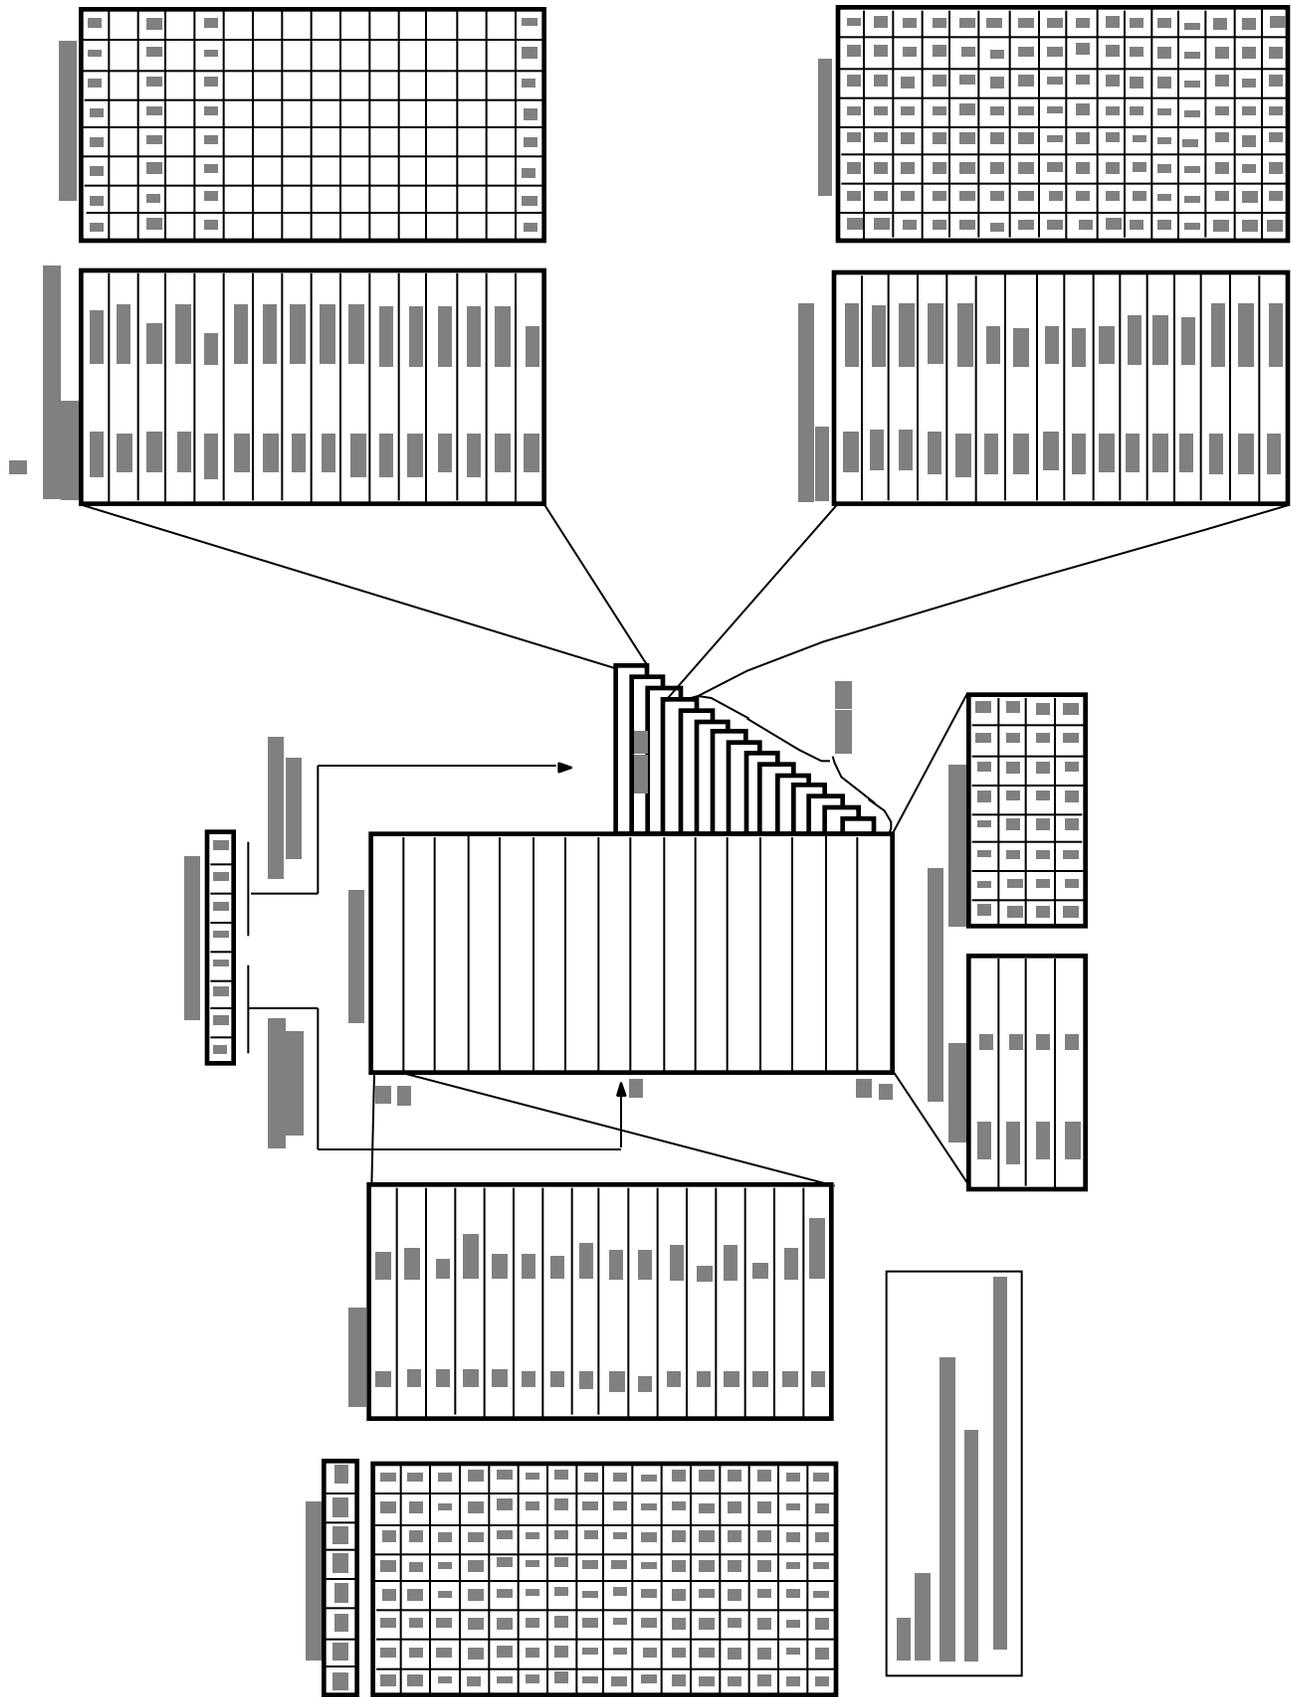
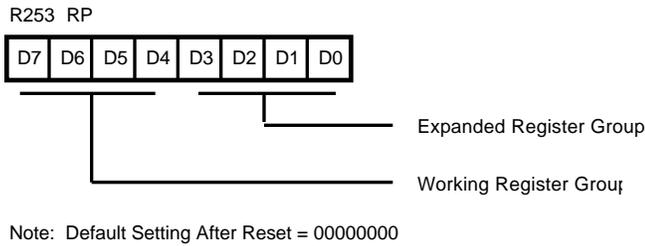
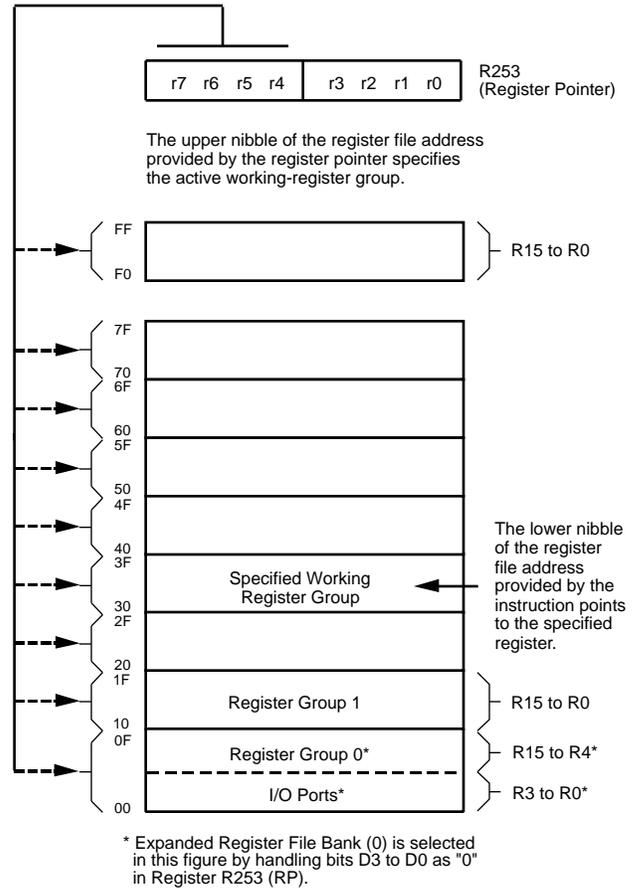

Figure 16. Expanded Register File Architecture
Figure 17. Register Pointer Register
Figure 18. Register Pointer
Expanded Register File. The register file has been expanded to allow for additional system control registers and for mapping of additional peripheral devices and input/output ports into the register address area. The Z8 register address space R0 through R15 is implemented as 16 groups of 16 registers per group (Figure 16). These register banks are known as the Expanded Register File (ERF). Bits 3-0 of the Register Pointer (RP) select the active ERF bank. Bits 7-4 of register RP select the working register group (Figure 16). Four system configuration registers reside in the ERF address space in Bank F and eight registers reside in Bank C. The rest of the ERF addressing space is not physically implemented, and is open for future expansion.
Register File. The Register File consists of three I/O port registers, 237 general-purpose registers, 15 control and status registers, and four system configuration registers in the Expanded Register Group (Figure 16). The instructions can access registers directly or indirectly through an 8-bit address field. This allows a short 4-bit register address using the Register Pointer (Figure 18). In the 4-bit mode, the Register File is divided into 16 working register groups, each occupying 16 continuous locations. The Register Pointer (Figure 17) addresses the starting location of the active working-register group.